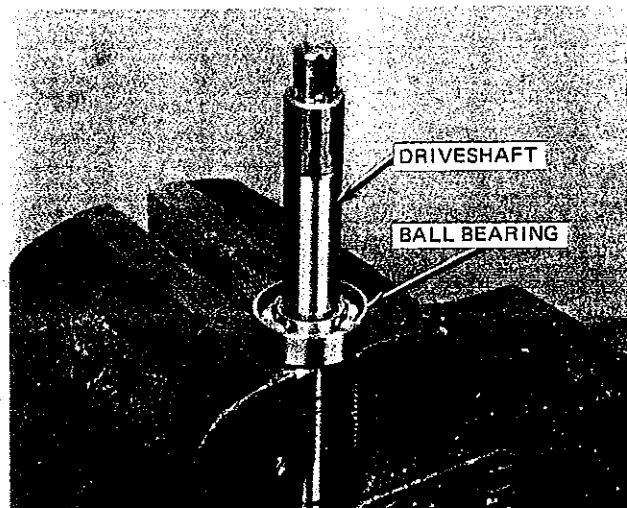

Figure 21. Tap shaft into bearing.
- B. To install the drive shaft ball bearing, place the ball bearing on the jaws of a vise and slip the drive shaft through the ball bearing. Adjust the vise jaws so that the jaws support the ball bearing inner race, but do not touch the drive shaft. Use a soft hammer or block of wood and a hammer to tap the drive shaft into position (Figure 21).